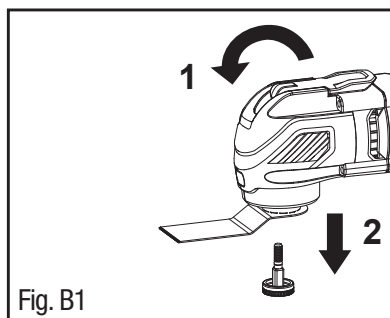

Fig. B1
(1b) For accessories with a closed-ended connection, flip the tool-less blade change lever (1) forward to the open position and completely remove the flange (7). Remove the flush-cutting blade. (See Fig. B1, B2)